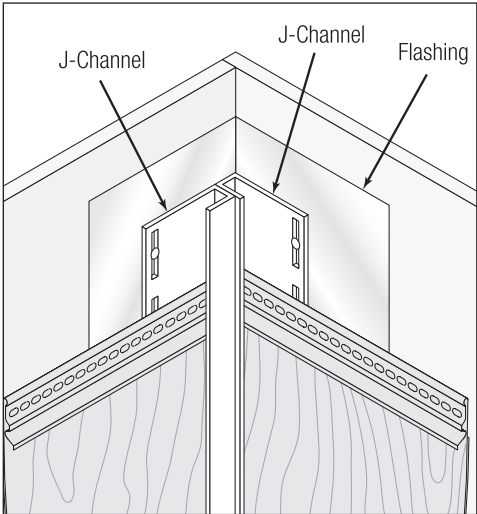

Fig. 4
- Secure the assembly to the corner of the home with nails every 10" on the J-Channel (**Fig. 4**).